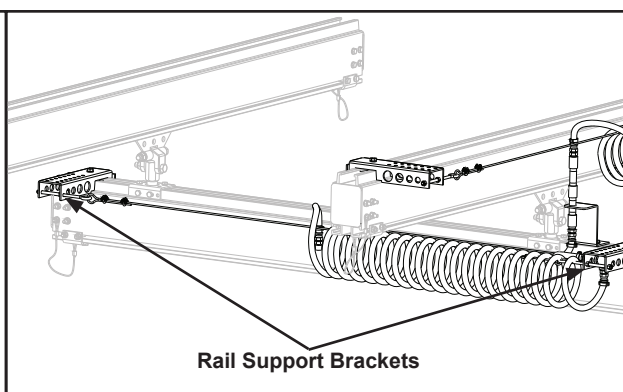

Figure 3-122
- Step 4. At opposite end of rail, attach rail support bracket by loosening M12 HHCS and sliding rail support bracket into bridge top channel. Tighten M12 HHCS to secure rail support bracket to rail. **Tighten until bolts are snug + ¼ turn.** Do not over tighten. Over tightening could cause bracket to bend. See Figure 3-122.